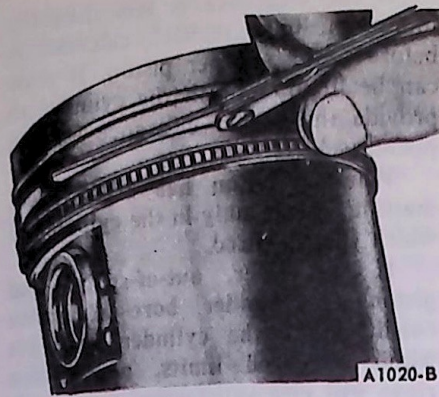

FIG. 29 Checking Piston Ring Side Clearance
6. Check the ring side clearance of the compression rings with a feeler gauge inserted between the ring and its lower land (Fig. 29). The gauge should slide freely around the entire ring circumference without binding. Any wear that occurs will form a step at the inner portion of the lower land. If